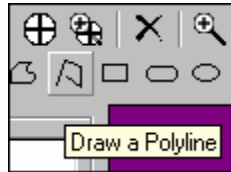
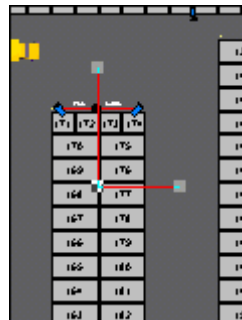

Figure 34
Figure 35
- This is where you must determine how you would like your panning path to go. The Polyline is actually the center of your Panning path. Select 'Polyline' on the tool bar (Figure 34). Left click once at your starting point, then proceed to the next turn in the path and left click (Figure 35), continue to pick points until the entire path is mapped out. Once the last point on the path has been picked, press the 'ESC' key on the keyboard. NOTE: Draw horizontal and vertical lines only, diagonal lines cannot be used for panning.